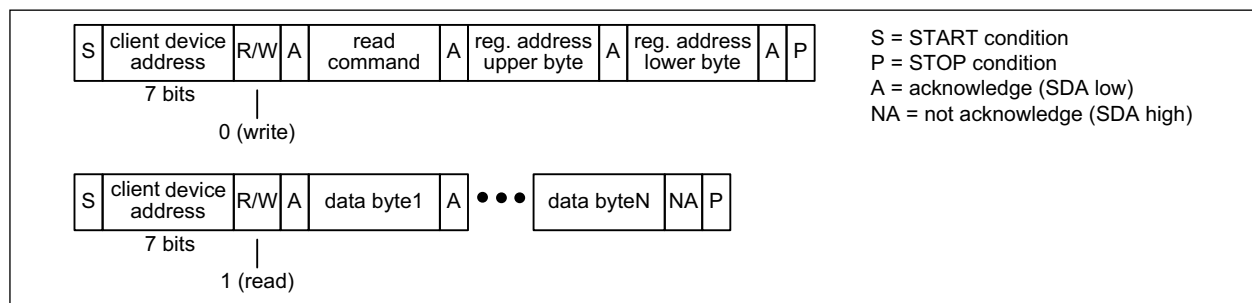
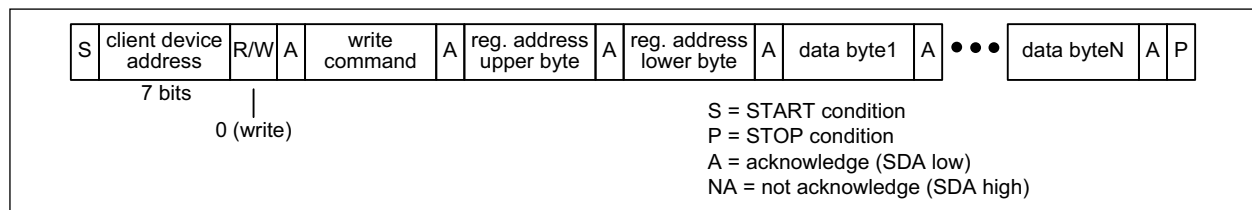

FIGURE 3-3: I²C Read Transaction Functional Timing.
FIGURE 3-4: I²C Write Transaction Functional Timing.
Read Transactions. The bus host first does an I²C write to the device. In this transaction, three bytes are written: the SPI Read command (see Table 3-1), the upper byte of the register address, and the lower byte of the register address. The bus host then does an I²C read. During each acknowledge (A) bit the device fetches data from the read address and then increments the read address. The device then transmits the data to the bus host during the next 8 SCL cycles. The bus host terminates the read with a not-acknowledge (NA) followed by a STOP condition (P). See Figure 3-3. Note: If the I²C write is separated in time from the I²C read by other I²C transactions, then the device only outputs the data value from the first address and repeats that same data value after each acknowledge (A) generated by the bus host.
Write Transactions. The bus host does an I²C write to the device. The first three bytes of this transaction are the SPI Write command (see Table 3-1), the upper byte of the register address, and the lower byte of the register address. Subsequent bytes are data bytes to be written. After each data byte is received, the device writes the byte to the write address and then increments the write address. The bus host terminates the write with a STOP condition (P). See Figure 3-4.
Note: In Figure 3-3 and Figure 3-4, a STOP condition (P) immediately followed by a START condition (S) can be replaced by a repeated START condition (Sr) as described in the I²C specification.